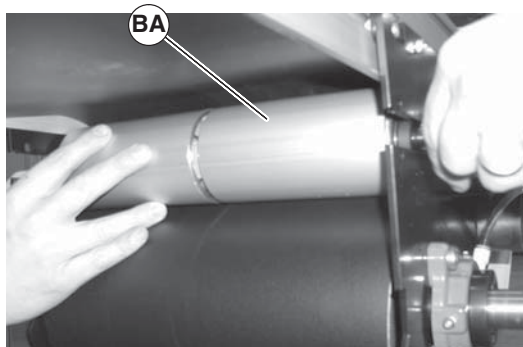

Figure 67
7. Slide out tensioning pulley (Figure 67, item BA).